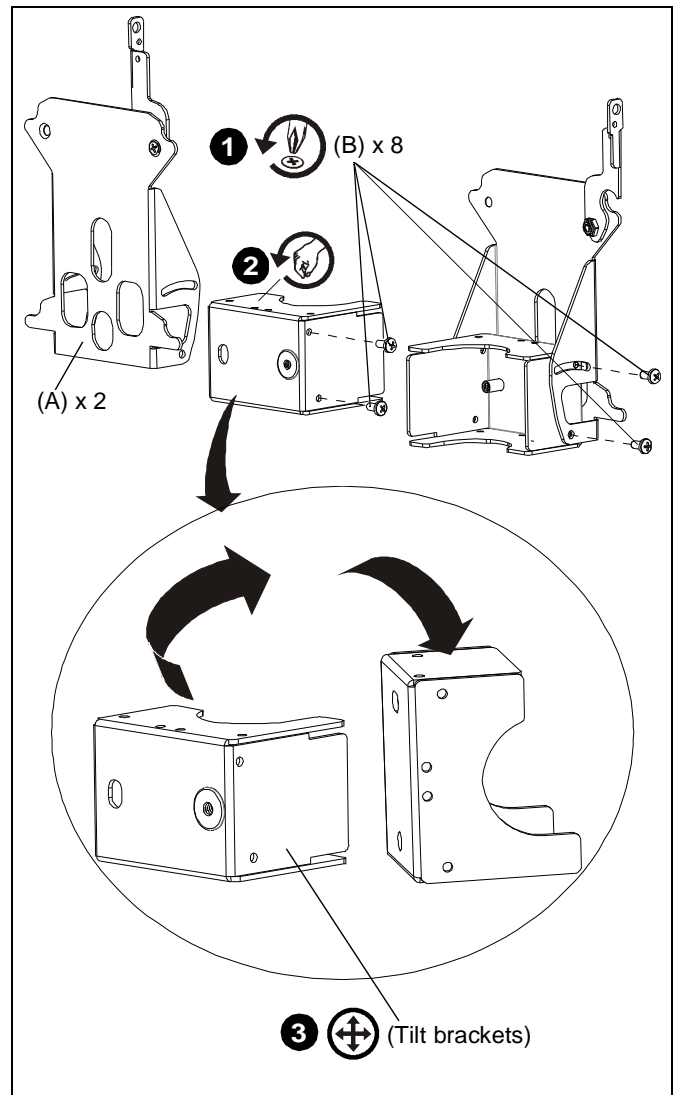

Figure 2
1. Remove eight tilt adjustment screws (four from each tilt bracket). (See Figure 2)
2. Detach tilt brackets from FDP (A). (See Figure 2)
3. Reposition the tilt brackets as shown. (See Figure 2)